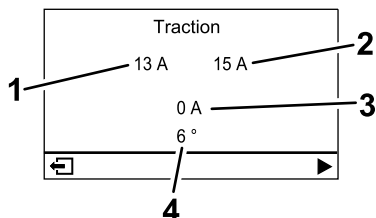

Figure 27
- **Traction motor screen (Figure 27):** shows the current steering angle and the amperage allotted to each traction motor.